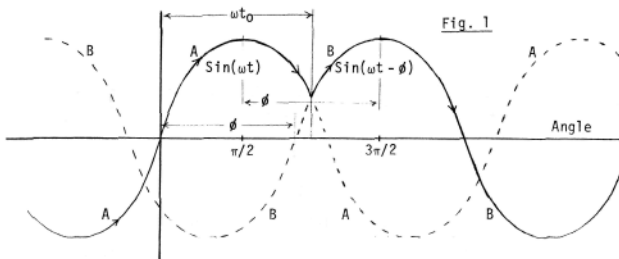

Fig. 1
The problem to be considered first is that of an instantaneous change from a positive to a negative frequency of the same magnitude. As we have discussed in the past, we can consider that a negative frequency is the same (somehow) as a reversal in time; as a phase factor ωt (as in $\sin \omega t$) can take on a negative value in two ways: $-\omega t = (-\omega)t = \omega(-t)$. This leads to the idea that a reversing oscillator provides the necessary through-zero FM function. Thus if an oscillator is reversed at a time t_0 (at a phase ωt_0), the waveform effectively "mirrors" about that point. A waveform such as this is shown in the solid line of Fig. 1. Since the change is instantaneous at t_0 , we do not see the slowing down and flat portion of the waveform (see EN#113 questions). This is the way a reversing oscillator will respond to a square wave control voltage. Thus it has the time reversal interpretation, equivalent to a negative frequency effect. The question is: can we show explicitly that the new portion of the waveform corresponds to a negative frequency?
Study of Fig. 1 shows that the reversal is equivalent to a jump of phase by angle ϕ as shown, or we can say that the oscillator jumps from one waveform (A) to a second one (B) at the phase ωt_0 . If we represent waveform A as $\sin(\omega t)$, then waveform B is $\sin(\omega t - \phi)$. What we need to do is determine ϕ as a function of t_0 , and from that, break the waveform into a sine and a cosine part. These sine and cosine parts should show negative frequencies. This develops as:
$$\omega t_0 = \pi/2 + \phi/2 \quad (\text{by inspection of Fig. 1}) \quad (1)$$